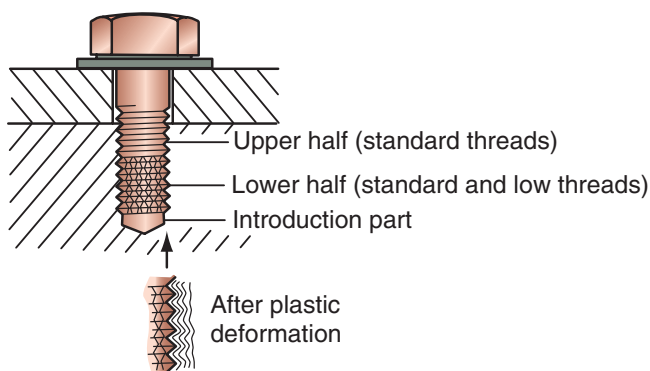

Figure 4-11 Combination (CT) bolts are self-tapping. Copyright by American Honda Motor Co., Inc. and reprinted with permission.
The combination (CT) bolt is a type of self-tapping bolt (Figure 4-11). It forms the female threads when it's screwed into the unthreaded pilot hole by deforming the walls of the hole. The lower half of the CT bolt features the combination of the standard threads and the low threads. Fewer chips and shavings are produced while using a CT bolt.